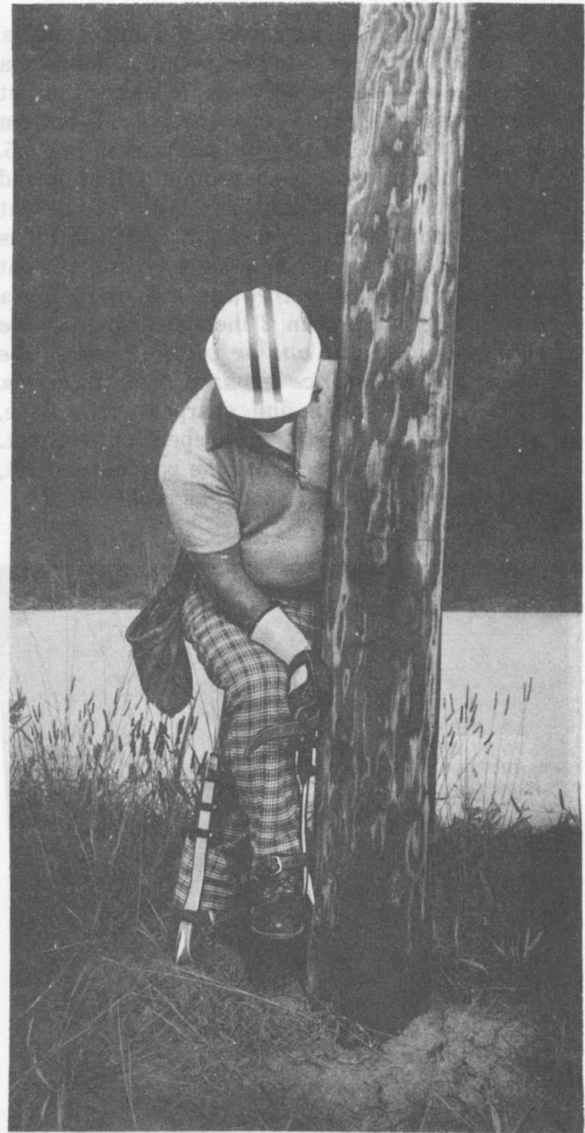

Fig. 14—Climber Holding
(3) Keeping just enough pressure on the stirrup to keep the gaff in the pole, but not so much as to cause the gaff to penetrate any deeper, push the climber and your hand toward the pole by moving your knee until the strap loop of sleeve is against the pole as shown in Fig. 14.